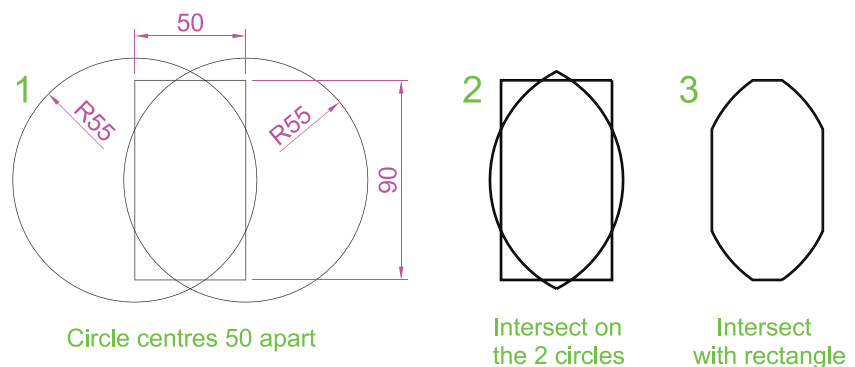

Fig. 12.13 Third example – **Intersect** and **Region**
Third example – **Intersect and Region** (Fig. 12.13)
1. Construct drawing 1 of Fig. 12.13.